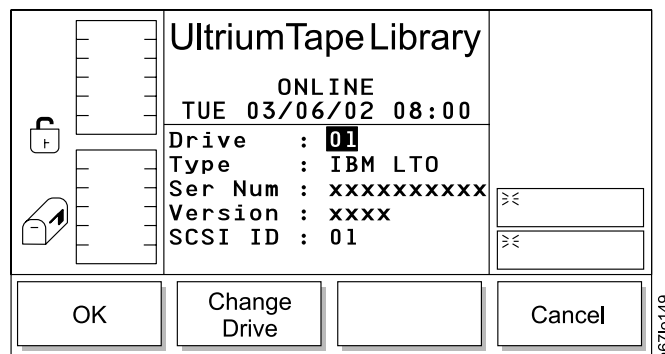

Figure 365. Drives Dialog
- To view the level of firmware currently loaded on a drive, select **Main Menu (initial screen) → Status → Drives**. The Drives Dialog displays (see Figure 365).